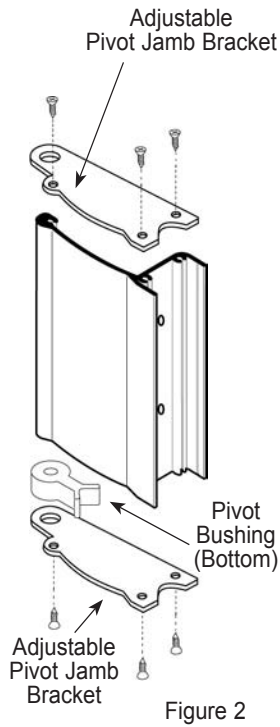

Figure 2
D. Locate the Pivot Bushing (Bottom) (#14) and press it into the Bottom Adjustable Pivot Jamb Bracket (#2) plate hole (See Figure 2).